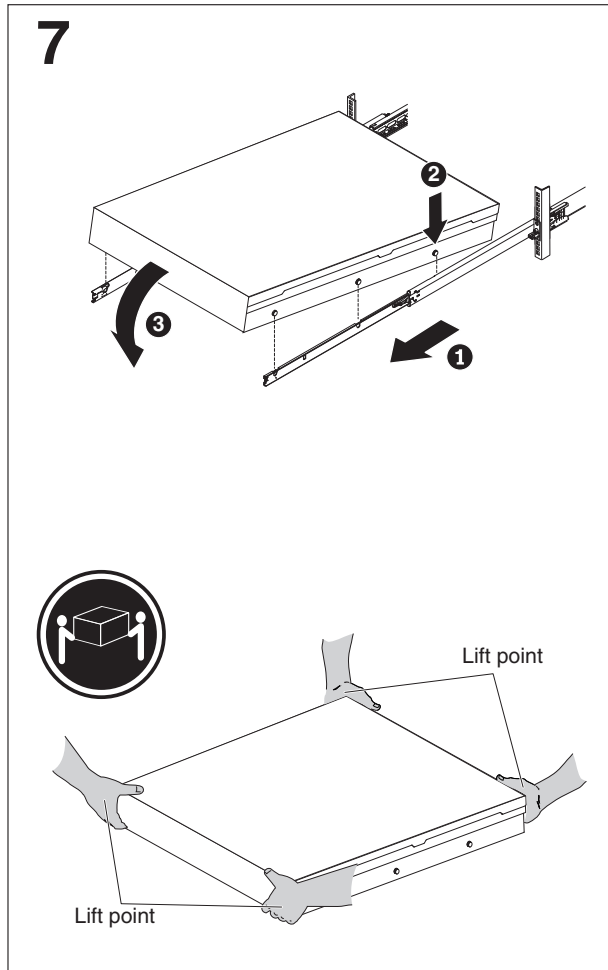

Figure 49. Installing the SAN Volume Controller 2145-DH8 node in the slide rails of the rack
- a. Pull the slide rails **1** forward, until they click twice into place (as shown in Figure 49 on page 78).